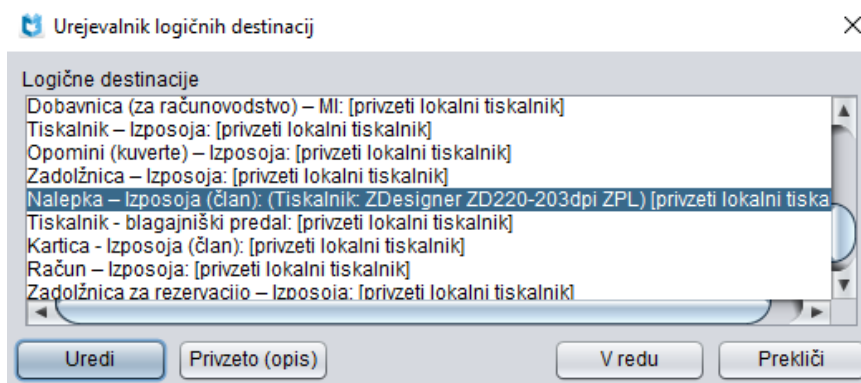

Figure 11: Logical destination editor for member labels
- Figure 11: Logical destination editor for member labels7
If you wish to use the same printer to print member labels, the procedure is the same as described in the previous steps, but the logical destination must be set to *Label – Loan (member)* (see Figure 11).